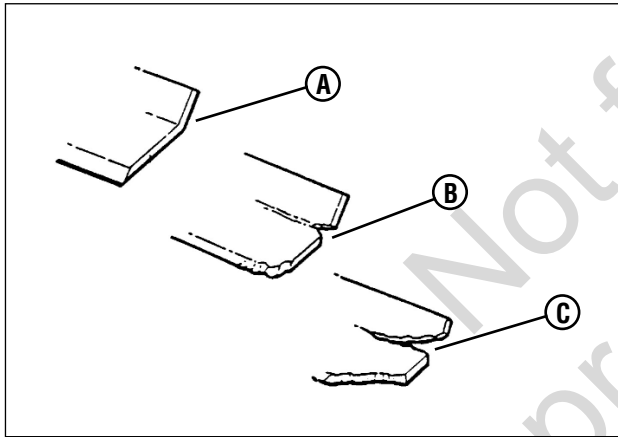

Figure 41: Mower blade wear limits
1. Inspect the blade frequently for signs of excessive wear or damage (**Figure 41**):
4. Inspect the condition of the blade (**Figure 41**).